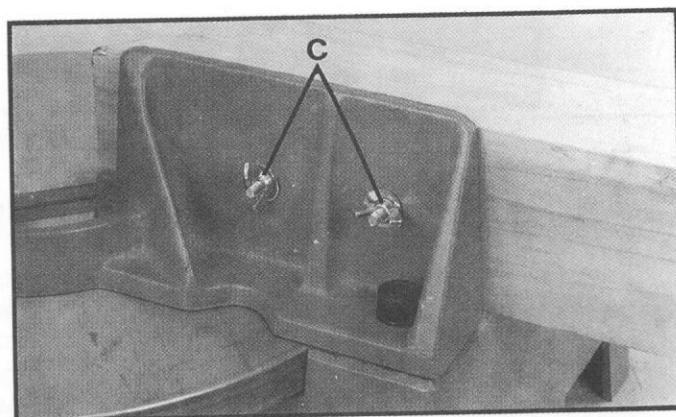

Fig. 59
Then fasten the filler blocks to the fence using wood screws (C) through the two holes provided on each fence half, as shown in Fig. 59. This enables you to easily remove the filler blocks when not in use and quickly re-assemble them to the fence when needed.